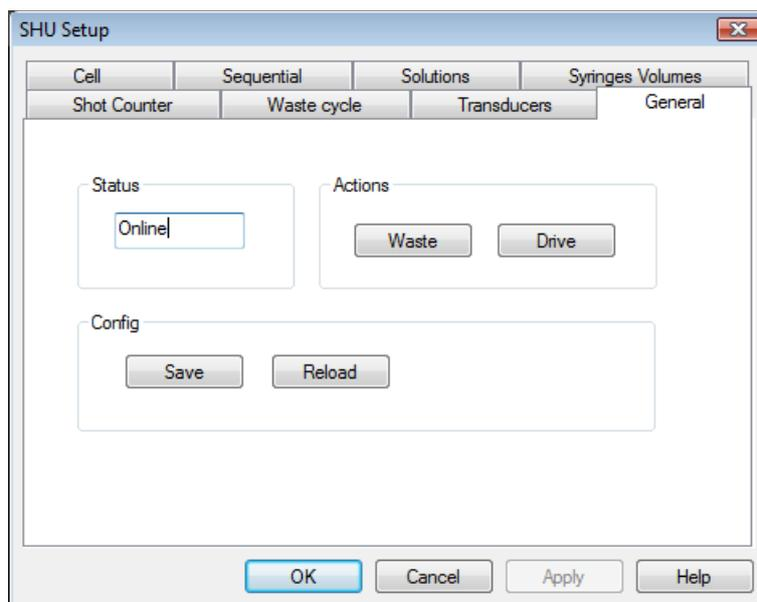

Figure 2.31: the General tab
- 7) Click the **Setup** button on the **KSHU** panel (Figure 2.30) and select the **General** tab (Figure 2.31). Enter 20 in the **Max Shots** box, click the **Save** button and then **OK**.